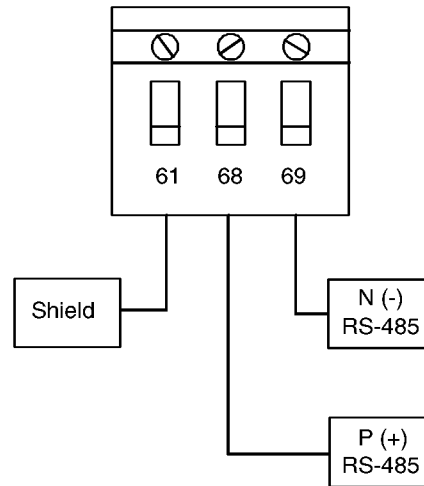

Figure 2. Network Terminal Connection
Connect the VLT 6000 to the FLN in accordance with the following procedure (see Figure 2).
2. Check that the network connections are securely fastened in accordance with Figure 2.